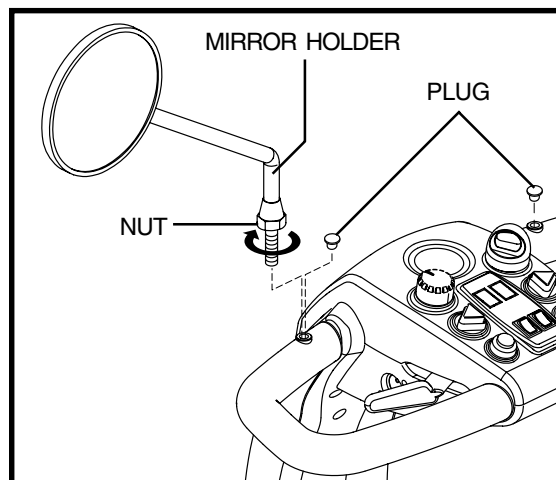

Figure 18. Mirror Installation
**To install the mirror (see figure 18):**